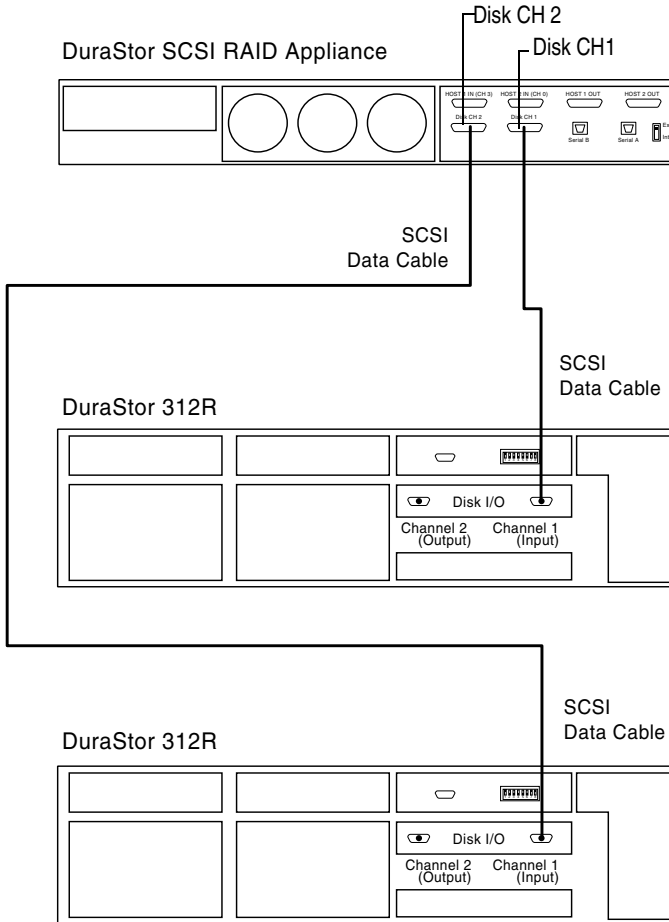

Figure 3-13 Single-Bus 13–24-Drive Cabling Diagram
- 2 Connect the DuraStor SCSI RAID appliance to the DuraStor 312R using SCSI data cables, as shown in Figure 3-13.